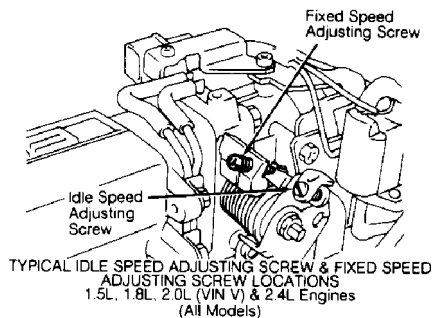

Fig. 1: Idle Speed & Fixed Speed Adjusting Screws (SAS) - 1.5L
Unscrew fixed Speed Adjusting Screw (SAS) slightly. See Fig. 1.
4) If basic idle speed is still incorrect after cleaning throttle body, adjust basic idle speed by turning idle Speed Adjusting Screw (SAS). See Fig. 1. After adjusting basic idle speed, turn fixed SAS screw clockwise until engine speed begins to increase.